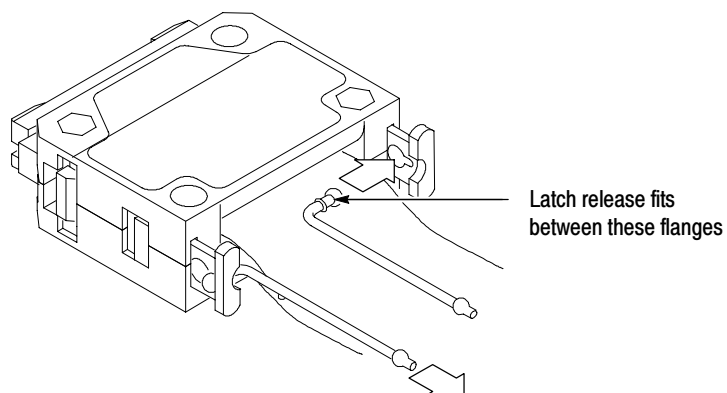

Figure 30: Reattaching the latch release cords to the latch releases
1. Place the latch release cords into the latch releases as shown in Figure 30.